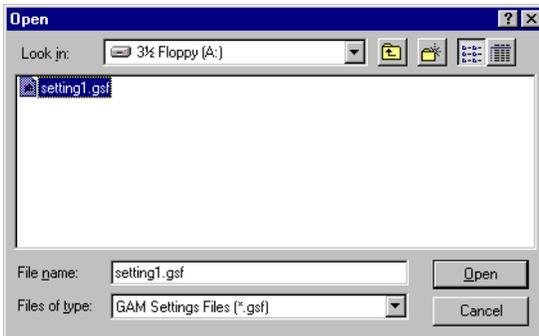

Figure 5-31. Open Previously Saved Settings
1. Click Open Settings. An Open dialog box is displayed (Figure 5-31).